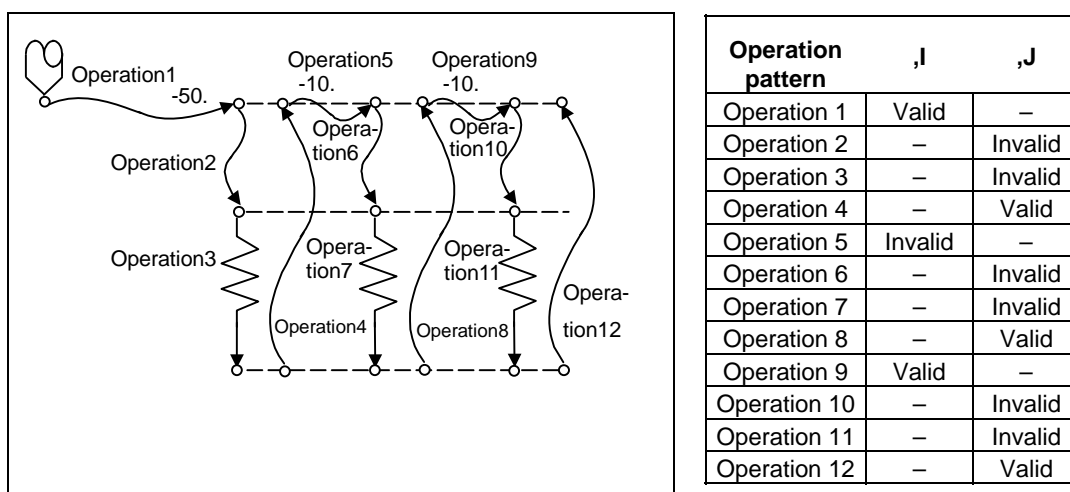

Fig. 2 Operation in fixed cycle modal
In the following machining program, the commanded in-position width is valid for the Fig. 2 block. In the (B) block, the in-position width (, I) commanded for positioning in the previous block (A) is invalid (operation 5). However, when returning from the hole bottom, the in-position width (, J) commanded in the previous block (A) is valid (operation 8).